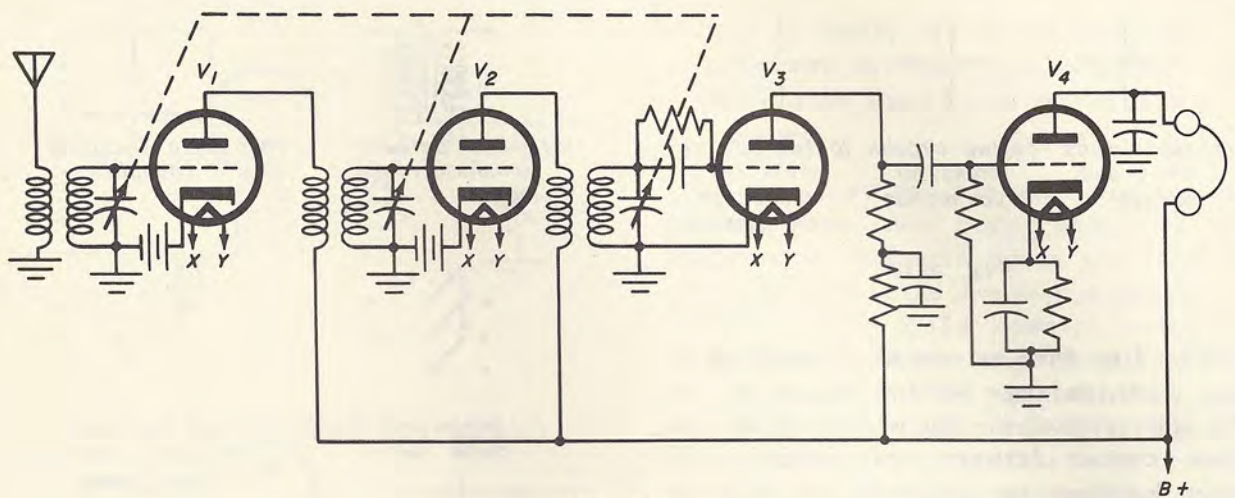

Fig. 2-9
1. Schematics or circuit diagrams should read from left to right. Each piece of electronic equipment has an *input* and an *output*. For example, the input to a radio receiver would be either a built-in antenna or the leads or binding posts that connect it with the outside antenna or ground wires. The output of the same receiver would be either a built-in speaker, where there is one, or the jack or binding posts to which the speaker or headset is connected. Therefore, in the drawing of a circuit diagram, the antenna and ground connections of the input would be shown at the extreme left of the drawing and the speaker or output connections at the extreme right of the drawing. Figure 2-9 shows a circuit diagram of a simple broadcast receiver. All of the things that happen to the incoming signal from the broadcasting station take place in the electron tubes and the circuits connected with them as the signal travels from the input at the left to the loudspeaker at the right. Electron tube 1 receives the signal and passes it on to tube 2, through 3, and then 4, before it reaches the headset.
tions. All of these sections may be tuned by one knob that is attached to one shaft. This type of tuning is shown in some schematics as it is shown in Fig. 2-9; slanted broken lines are drawn from all the parts that are mechanically linked (ganged) to some common point. This method is often used to show the linking of switches. In Fig. 2-11c, the broken line indicates that the three parts of the double throw switch are linked. The two separate five position switches shown in Fig. 2-11d are mechanically linked switches.